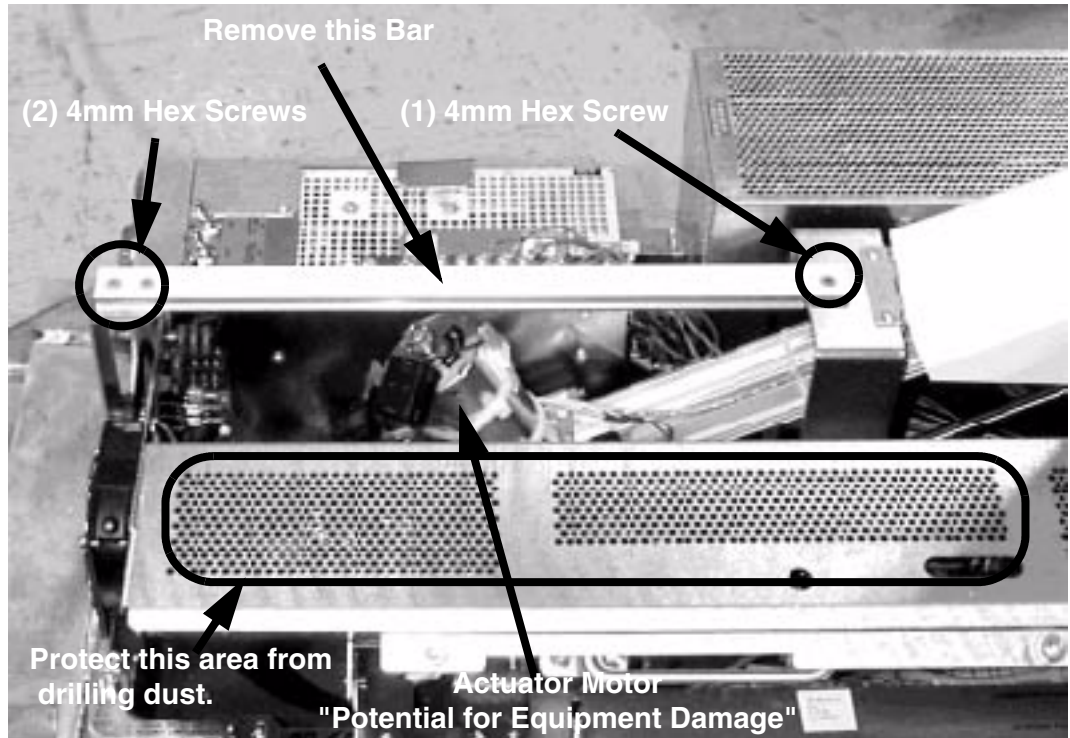

Figure 1-15 Center Support Bar
- 6.) Remove the table base cover center support bar. (See Figure 1-15.)